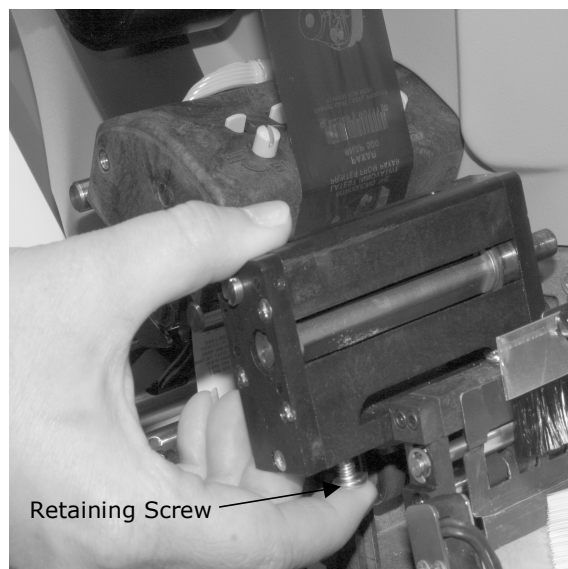

Figure 18b. Removing Knife Assembly
4. Place your right index finger on the head of the retaining screw and your thumb on top of the assembly and lift up. This will remove the key that is machined into the knife base from the groove in the mounting bracket (see Fig. 18b).